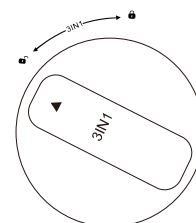

Figure 4
2. Insert the 3IN1 Cartridge in upper hole, the triangle icon on top of filter element should be pointed at the  icon(Figure 4).